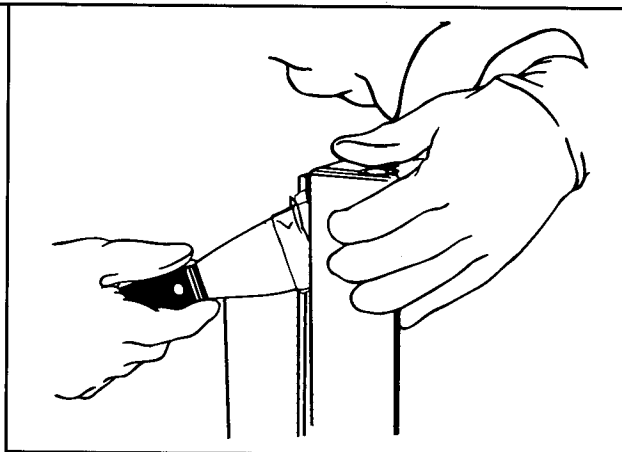

Figure 60
- a. With a taped putty knife carefully remove handle side trim. See Figure 60.